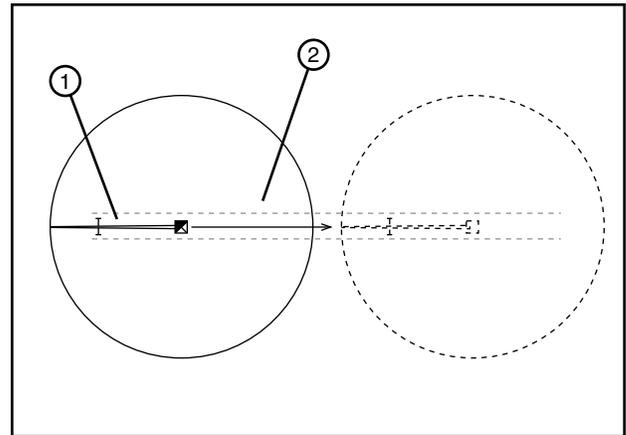

Figure 47-1 1. Machine
1. Position the machine in the tow lane. When positioning the center pivot, always use the "STOP" button on the control panel to stop the center pivot. NEVER stop the center pivot with the control panel or service disconnect switches. See figure 47-1.